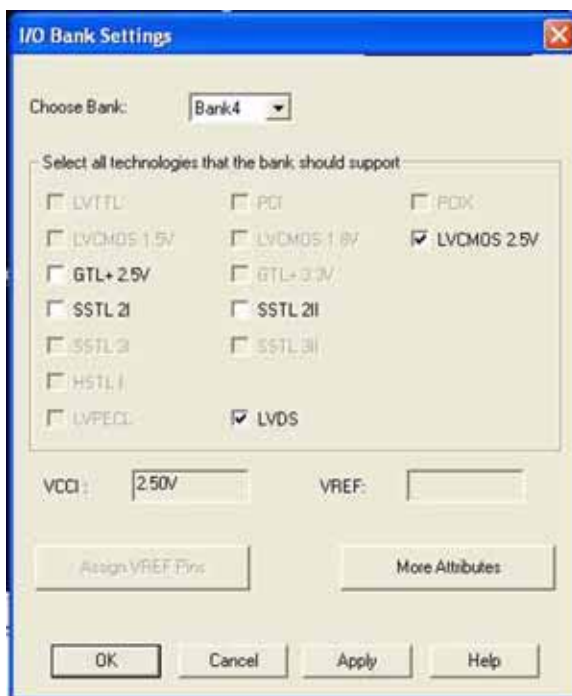

Figure 3-36. I/O Bank Settings Dialog Box
2. The I/O Bank Settings dialog box appears, as shown in Figure 3-36.